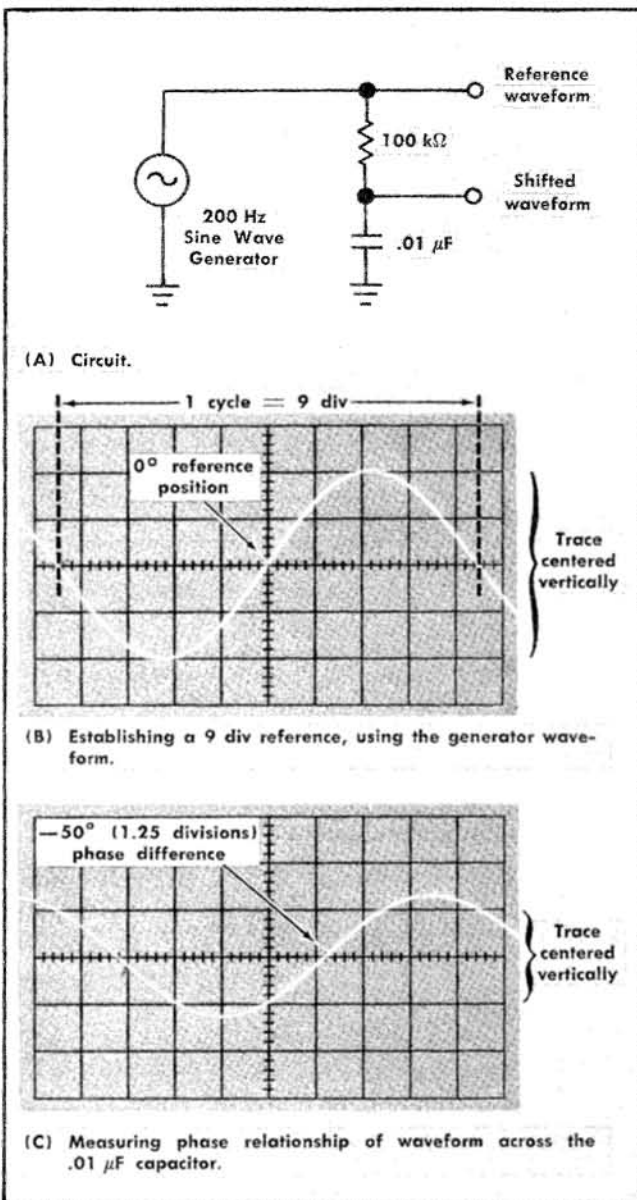

Fig. 2-14. Measuring phase relationships.
External triggering is extremely useful in measuring phase difference between signals. The circuit in Fig. 2-14(A) is used to demonstrate this feature.
controls so that one cycle of the reference signal covers 9 divisions of horizontal trace, passing through 0° at the intersection of the graticule center lines as in Fig. 2-14(B). This causes each division of horizontal base line to display 40° of the waveform being applied.
Disconnect the reference waveform from the vertical input. Connect the shifted waveform to the vertical input connector and measure the amount of separation between the graticule center line and the waveform 0° point as in Fig. 2-14(C). Convert the amount of separation to degrees, using the $40^\circ/\text{div}$ value which was established previously. If the 0° point has moved to the left, the waveform leads the reference. If it has moved to the right, the waveform lags the reference.